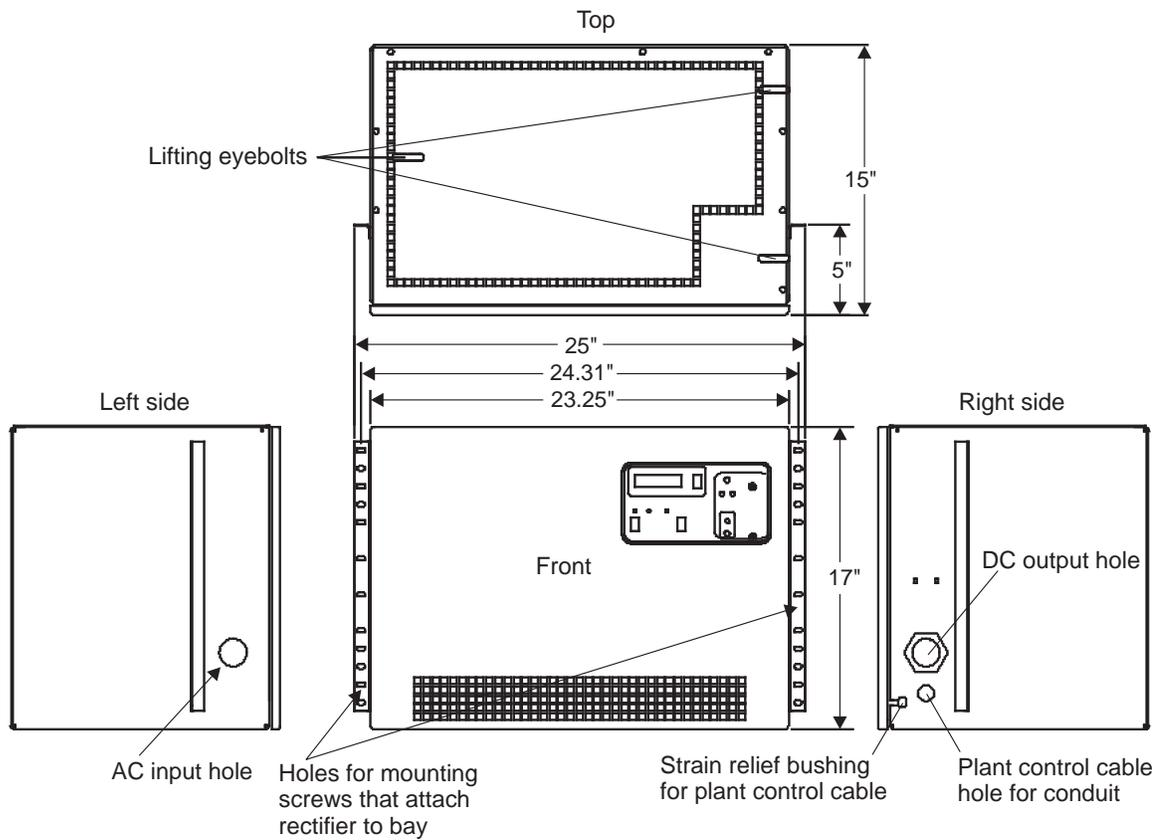
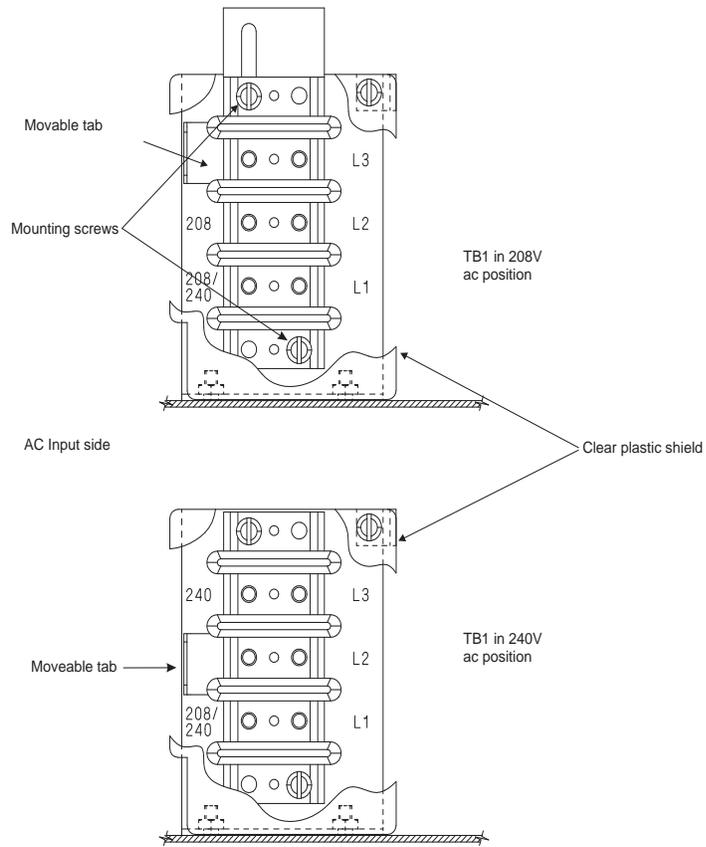

Figure 5-1: Four Views of the J85502C-1 125-ampere Rectifier
Figure 5-2: Terminal Block 1 (TB1) Where Ac Input Voltage Is Converted on J85502C-1 Rectifier
Figure 5-1 shows the ac input conduit hole. Figure 5-2 shows termination points for the ac input wires. The “green wire” is the ac equipment ground (AC EG), also known as frame ground (FR GRD). Its termination point is on the left wall of the rectifier near the ac input conduit hole.
Figure 5-1 shows the dc output conduit hole. Figure 5-4 shows the dc output wire termination points for both negative and positive polarity. Table 5-B specifies the dc output cable size, T&B connectors and crimp die. Also see note 57 on J-drawing, J85502C-1.
Use Figures 5-1, 5-2, and 5-3 as references for this section.
Use Figures 5-1, 5-3, and 5-4 as references for this section.
1. Route the plant control cable from the controller chassis via the cable racks to the rectifier, then through the opening provided for this cable (see Figure 5-1).
Converting the ac input voltage to a rectifier is necessary only if the ac wiring is incorrect in the unit or if rectifiers are moved and the input ac voltage is different. Refer to Figure 5-2 during this procedure.
When you loosen the mounting screws and slide the movable tab down so that it covers the 208 marking, the tab blocks entry to the 208 Vac hole on the ac input side of **TB1**. The lower drawing in Figure 5-2 shows the tab in this position that is correct for 240 Vac input to the rectifier.
When you slide the movable tab to the position shown in the upper drawing of Figure 5-2, it covers the 240 marking and blocks entry to the 240 Vac hole on the ac input side of **TB1**. Now the 208 marking shows, indicating that the rectifier is set for 208 Vac input to the rectifier.